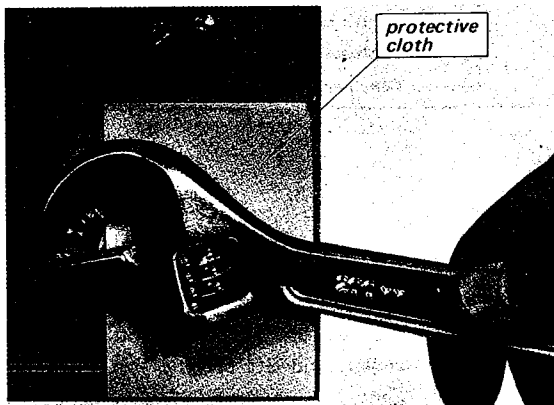
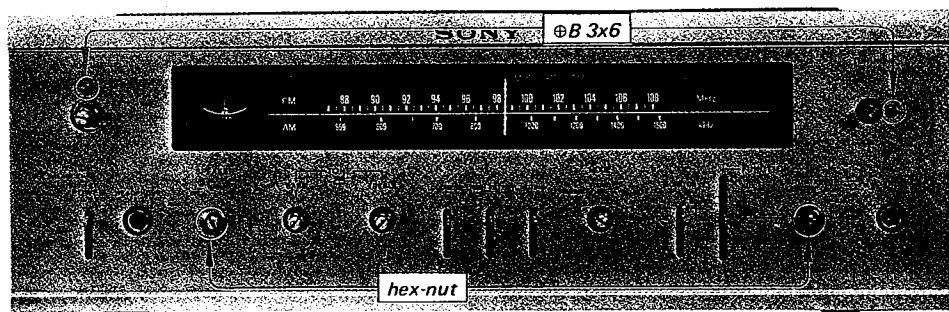

Fig. 2-4. Hex nut removal
Fig. 2-3. Front panel removal
3. Remove the two self-tapping screws ($\text{Ø}B\ 3\times6$) and two hex-nuts securing the front panel to the front sub-chassis as shown in Fig. 2-3. Place a piece of cardboard or cloth between the wrench and front panel to avoid marring the panel as shown in Fig. 2-4. Now the front panel is free for servicing.